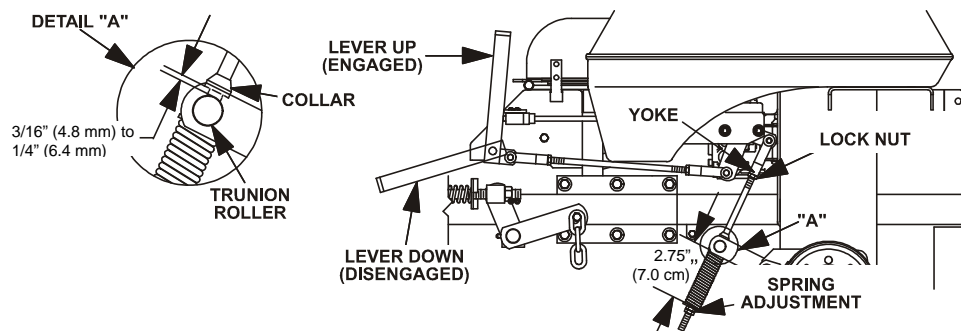

FIGURE 14
- b) Measure the length of the spring. Measurement should be 2.75" (7.0 cm) between washers (see Figure 14).
- Measure the distance between the trunion roller and the rod collar. Measurement should be 3/16" (4.8 mm) to 1/4" (6.4 mm). See Figure 14.
- If adjustment is necessary, loosen the nut directly below the yoke. Turn the bottom nut (below washer) until the correct measurement is obtained (See Figure 14) turn nut clockwise to lengthen the gap (screws rod into yoke) and turn counter-clockwise to shorten the gap (screws rod out of yoke). Tighten nut against yoke and check opposite side of unit, repeat if necessary.